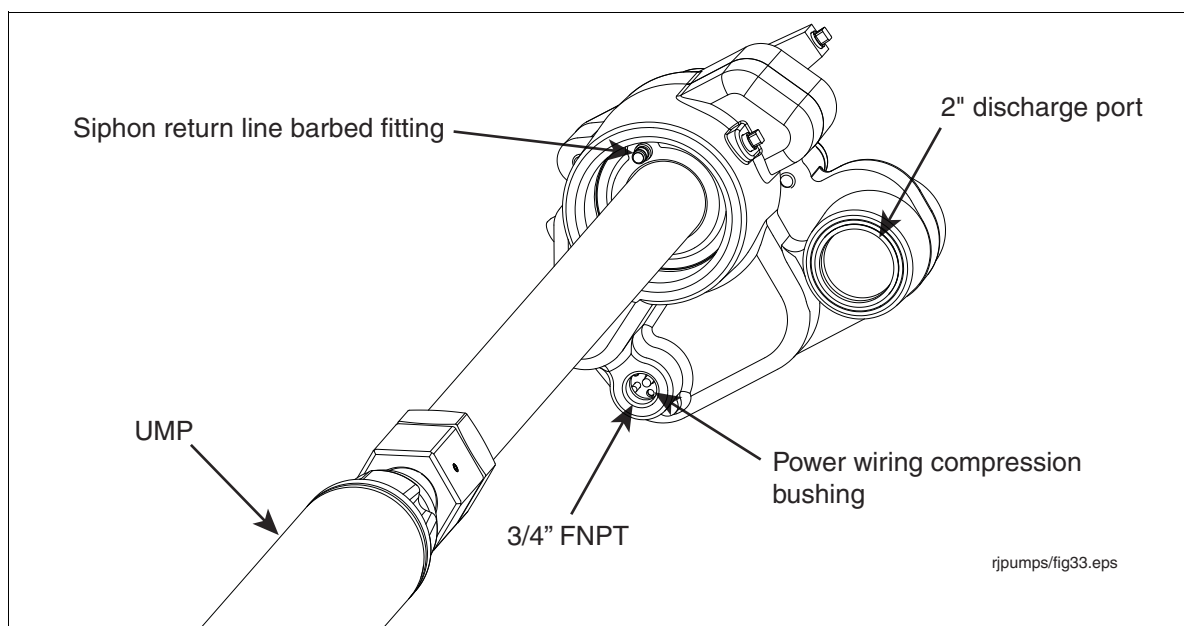

Figure 12. Locating return line fitting on packer
- Attach the siphon return line tubing to the barbed fitting in the base of packer and secure with a clamp (see Figure 12).